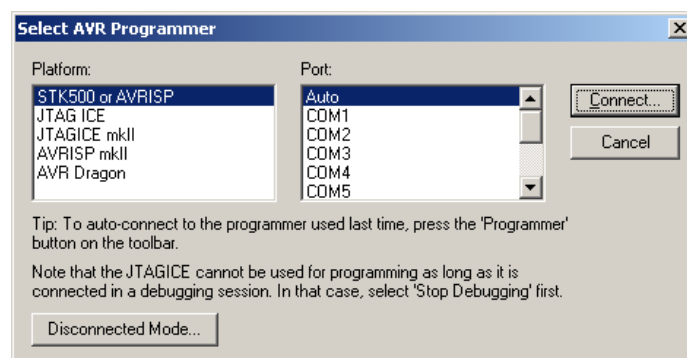

Figure 11: Selecting AVR programmer.
- In the 'Select AVR Programmer' dialog box, choose 'STK500 or AVRISP' as the platform and 'Auto' as Port (see Figure 11). Then click button **Connect**.